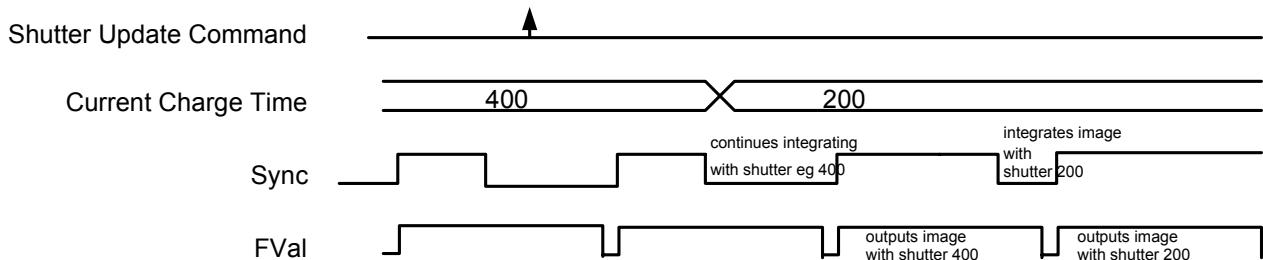

Figure 60: MARLIN update timing
- The delay from shutter update until the change takes place: up to 3 frames. Figure 60: MARLIN update timing on page 103 demonstrates this behavior. It shows that the camera receives a shutter update command while the sensor is currently integrating (Sync is low) with shutter setting 400. The camera continues to integrate and this image is output with the next FVal. The shutter change command becomes effective with the next falling edge of sync and finally the image taken with shutter 200 is output with a considerable delay.